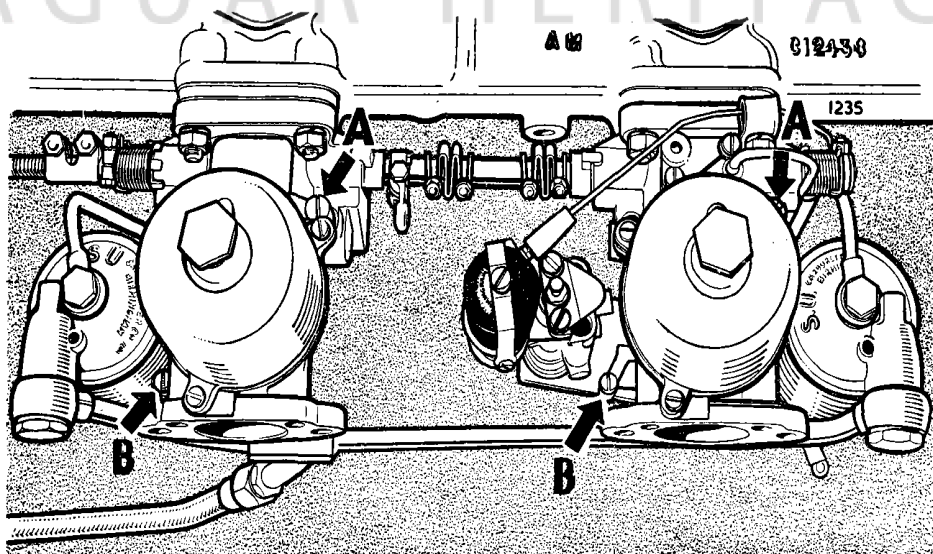

Fig. 12. "A"—Slow running volume screw. "B"—Mixture adjusting screw.
If adjustment is required turn the two slow running volume screws (see Fig. 12) by exactly equal amounts until the idling speed, observed on the revolution counter instrument, is correct.
Only two adjustments are provided at the carburetters (i) The slow running volume screw (A) (Fig. 12) governing idling speed and (ii) the mixture adjusting screws (B) governing mixture strength. Correct setting of the mixture strength at idling speed ensures that the carburetters are correctly adjusted throughout their entire range.